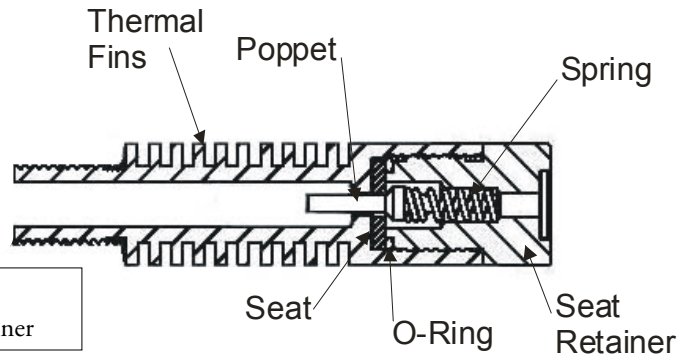

Figure 11
7. Remove the seat retainer, spring and poppet (Figure 11).